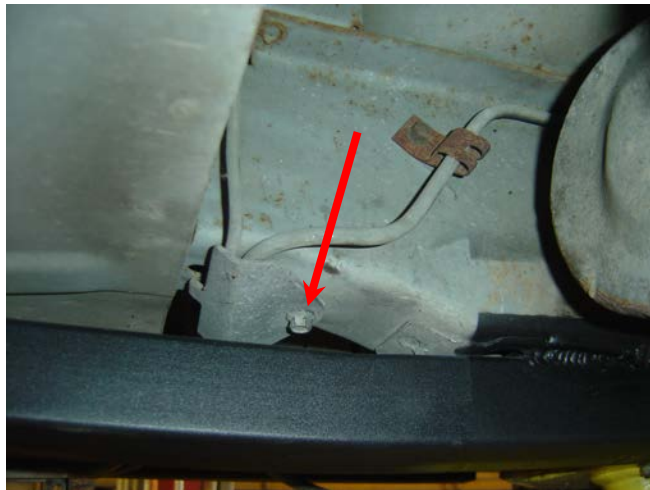

Fig.3
4. Locate fuel lines running long rocker panel pinch weld lip below passenger side door. Using 3/16" drill bit, drill out the two pop rivets holding the line clamps in place (Ref. Fig.3 & 4).
12. Reposition the fuel lines against the floor pan and along the stiffening rail. Position the two line clamps flat against the floor pan. Mark their location and drill with 3/16" bit through floor pan ONLY. Do not permit bit to drill into carpet. Rivet into place. (Fig. 3 & 4)